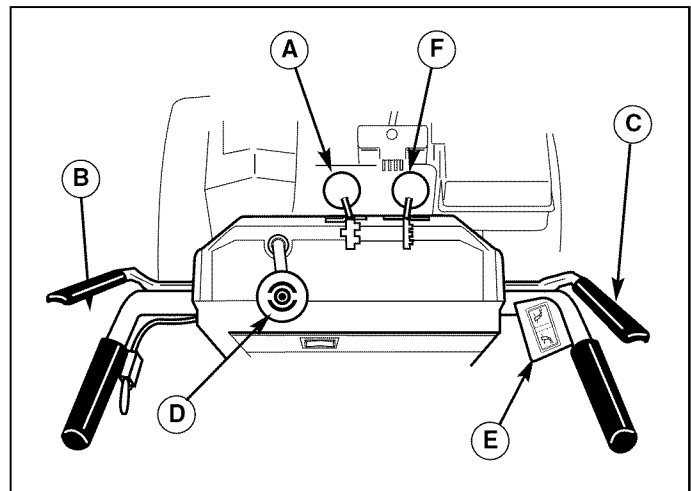

Figure 4. Controls (From Operator's Position)
3. Fully press and hold the auger engage control (C, Figure 4) on the right-hand grip to begin auger rotation. Releasing the auger engage control will disengage the auger — **unless the Free-Hand™ Control has been activated (See step 5 below).**
4. Fully press and hold the traction & Free-Hand™ Control lever (B, Figure 4) on the left-hand grip to engage the traction drive and begin moving the snowthrower. To disengage the traction drive, completely release the lever.
6. Select forward or reverse speeds as needed using the Speed Selector (A, Figure 4). Release both control levers before changing drive speeds.
Use the speed selector (A, Figure 4) to control the drive speed of the snowthrower. There are five forward speeds and two reverse speeds.
To change speeds, release both control levers (B, Figure 4), then move the speed selector to the desired setting. Fully depress the control levers to resume.